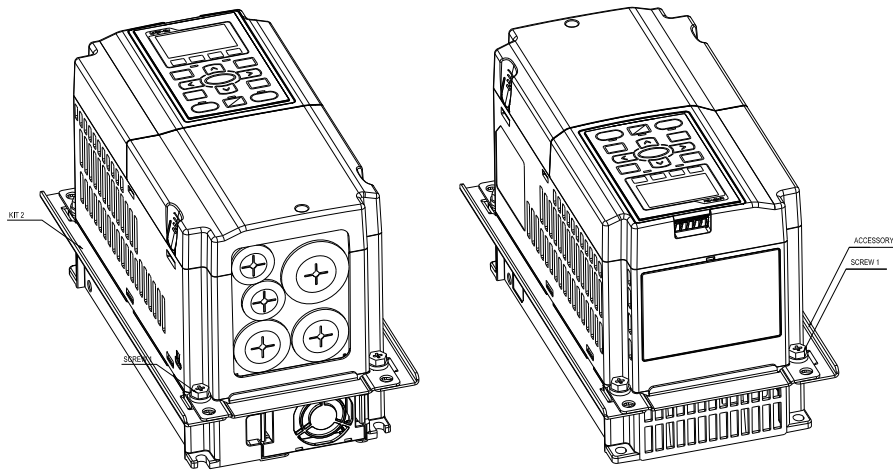

Figure 2
2. Install accessory 2 & 3 by fastening 2 of the screw 2 (M6). Screw torque: 25–30 kg-cm / [21.7–26 lb-in.] / [2.5–2.9 Nm] (figure 2)